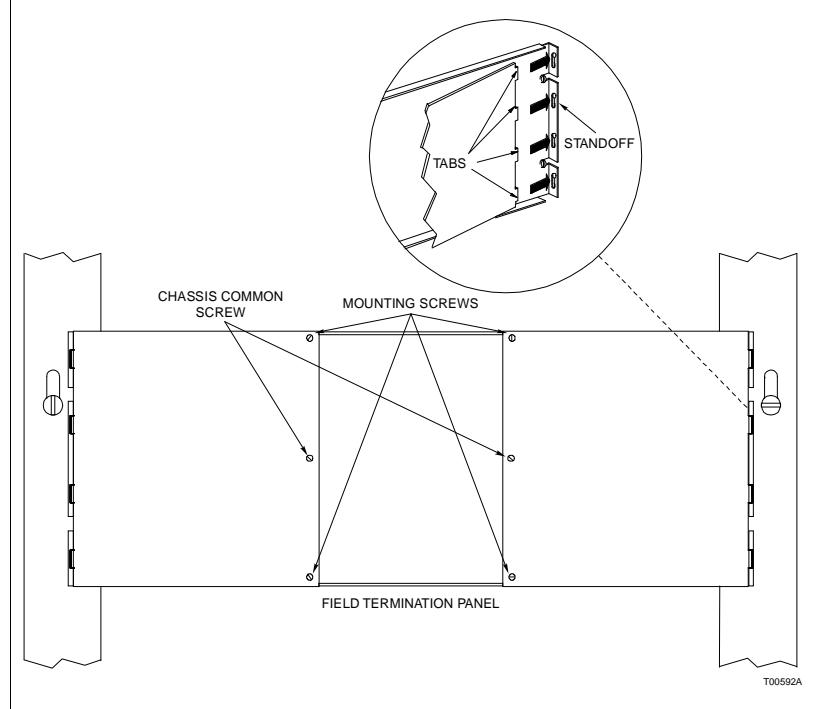

Figure 2-1. Mounting and Securing the TPL to the NFTP01
1. Insert the tabs of the circuit board into the proper slots of the termination panel standoff (see Figure 2-1) and slide the circuit board into position.
2. Secure the termination unit circuit board to the field termination panel with two - number ten machine screws (see Figure 2-1).
3. Connect the chassis ground by installing a number ten self tapping screw and external star washer in the location shown in Figure 2-1.